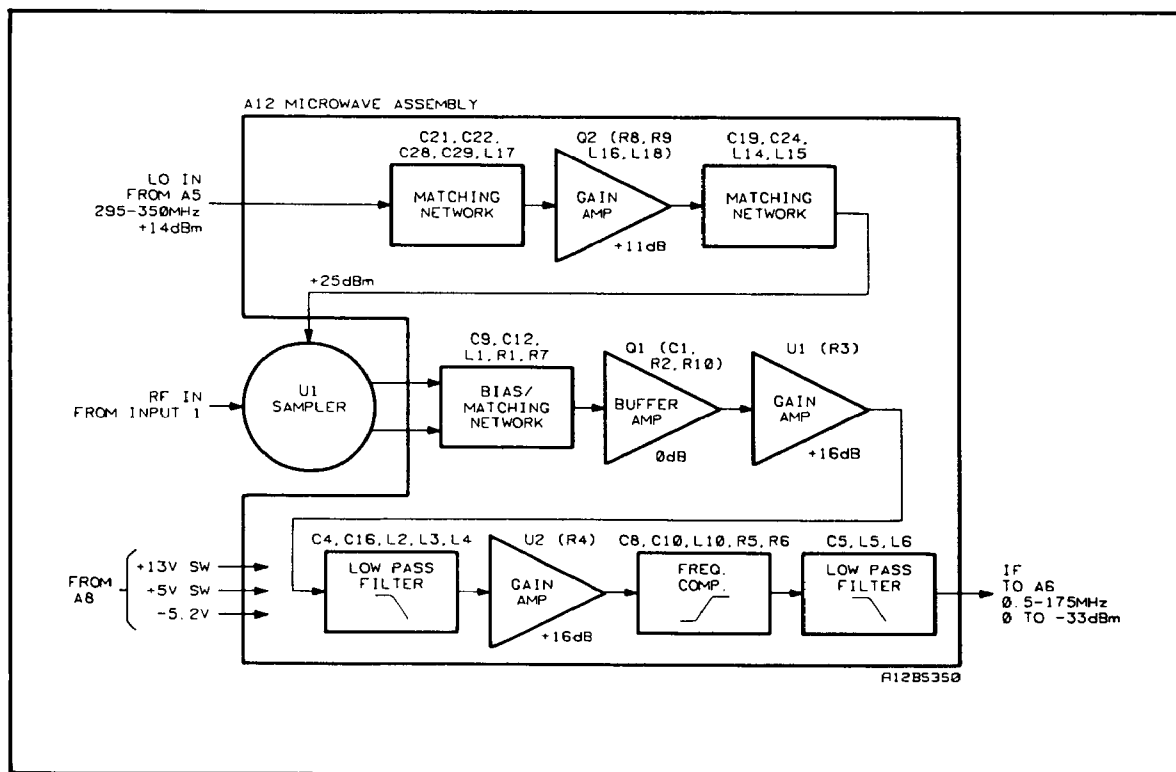

Figure 8-24. A12 Block Diagram
8-360. The basic function of the microwave module in the HP 5350B/51B/52B counter is to down-convert microwave signals in the 500 MHz to 20.0 GHz [26.5 GHz, 40 GHz] region to the intermediate frequency (IF) region of the counter. The 30 to 175 MHz IF signal is amplified and detected by the A6 IF Amplifier/Detector Assembly, and then counted by the A3 Counter Assembly. (See Figure 8-24.)